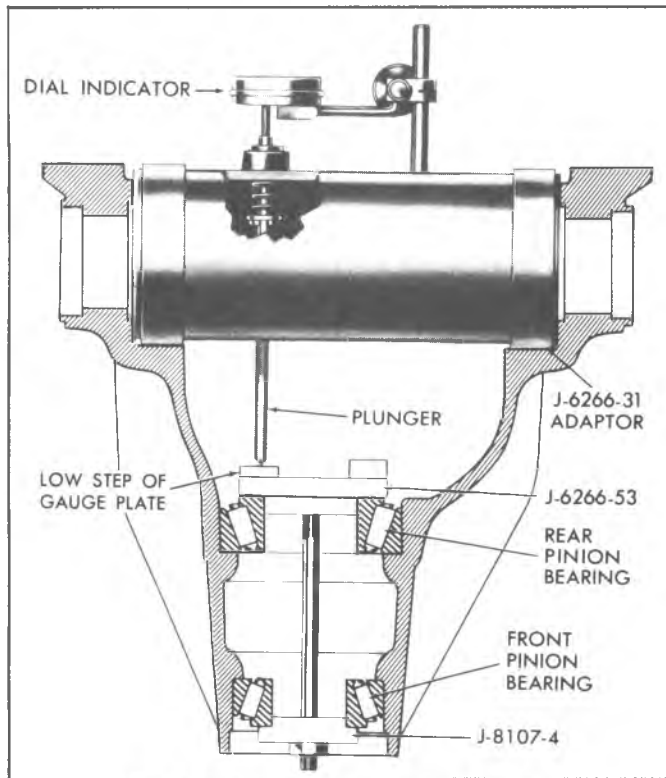

Fig. 0-4—Pinion Gauging Tools—Corvette
1. Set up the tools as shown in figures 0-4, and 0-5.